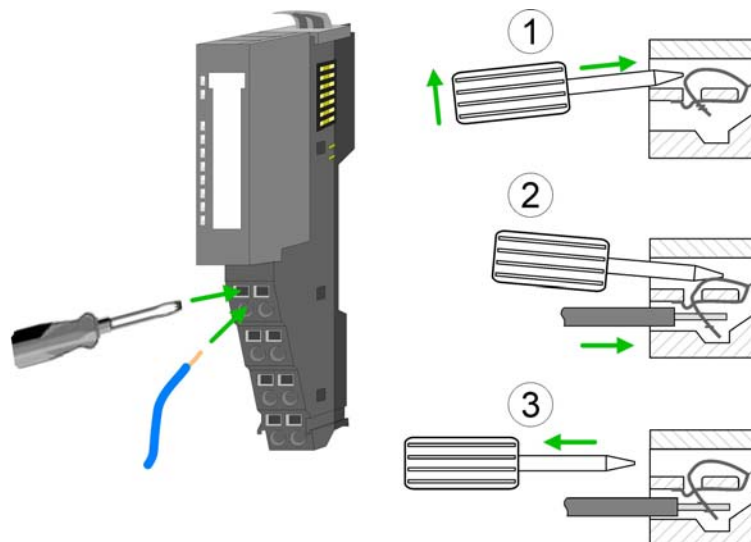

Fig. 3-18: Spring terminals
- 1 | Put the screwdriver slightly inclined in the rectangular opening (Fig. 3-18: 1).
- 2 | Press and hold the screwdriver away from the round opening. The contact spring is open (Fig. 3-18: 2).
- 3 | Put the stripped wire in the round opening (Fig. 3-18: 2).
- 4 | Remove the screwdriver (Fig. 3-18: 3).